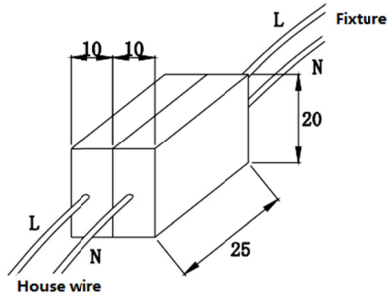

Figure 3
3. If the driver of the lamp comes with a lead wire, and this connecting lead wire needs to be connected to an independent terminal block (refer to the wiring diagram in Figure 3), the size of each terminal block should not be less than 10x20x25mm.